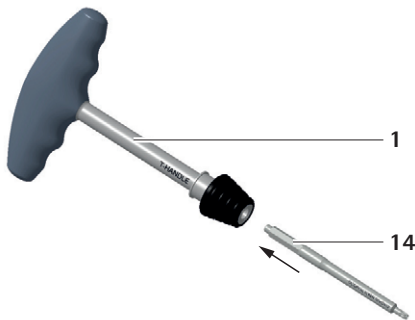

Fig. 16
- ▶ Attach the screw remover 14 (SZ112R) to the T-handle 1 (SZ004R), see Fig. 16.